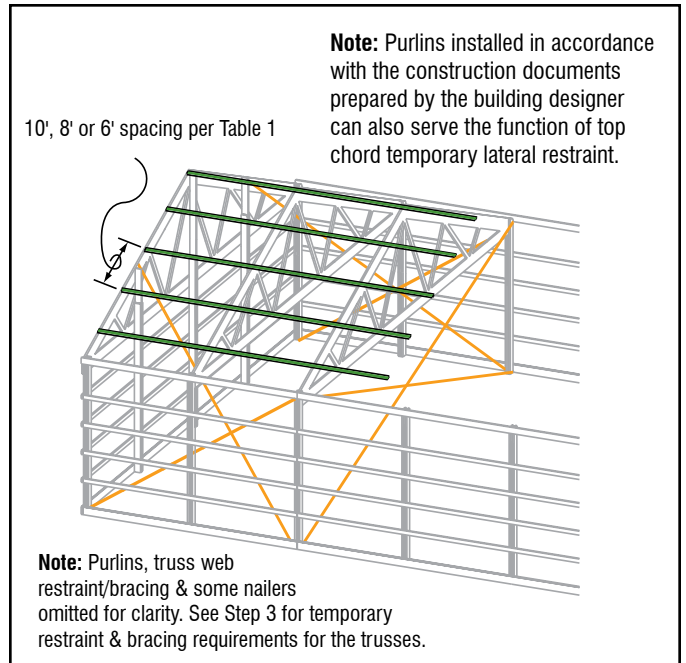
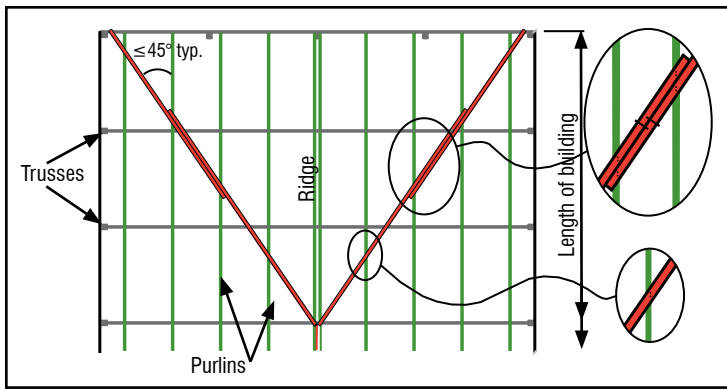

Figure 2. Top Chord Temporary Lateral Restraint (from Step 3 of B10)
Figure 3. Top Chord Diagonal Bracing Using 2x4 Lumber (from Step 3 of B10)
Step 3 in B10, which provides guidance on installing purlins along the top chords (see Figure 2), was followed (see Photos 3 and 4). Unfortunately, the next part of Step 3, which calls for the installation of diagonal bracing of the purlins (see Figure 3 on page 24) had not been followed. It's important to note that, while this bracing can be installed above or below the purlins, for ease of installation, the temporary diagonal bracing generally is affixed below the purlins so the diagonal bracing can remain as part of the roof system's permanent bracing and does not have to be removed during the sheathing process.